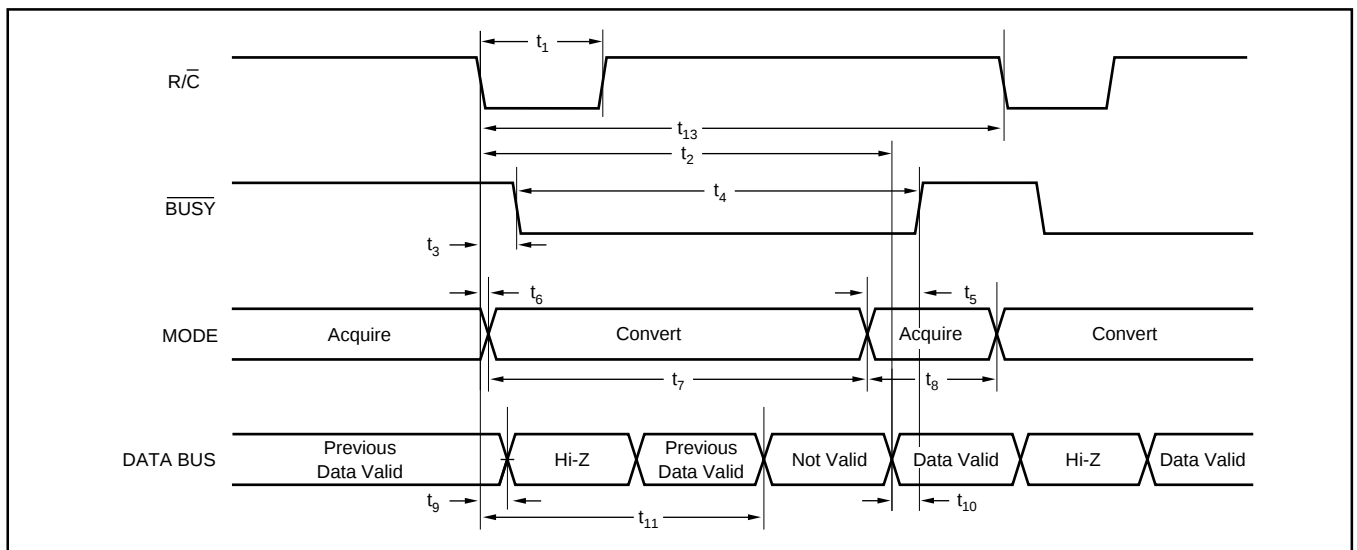

FIGURE 3. Conversion Timing with Outputs Enabled after Conversion ($\overline{CS}$ Tied LOW).
Table II for a summary of $\overline{CS}$, $\overline{R/\overline{C}}$, and $\overline{BUSY}$ states and Figures 3 through 5 for timing diagrams.
NOTE: (1) See Figures 3 and 4 for constraints on data valid from conversion "n-1".
After conversion 'n' is completed and the output registers have been updated, $\overline{BUSY}$ (pin 26) will go HIGH. Valid data from conversion 'n' will be available on D15-D0 (pins 6-13 and 15-22). $\overline{BUSY}$ going HIGH can be used to latch the data. Refer to Table IV and Figures 3 to 5 for timing specifications.
After conversion 'n' has been initiated, valid data from conversion 'n-1' can be read and will be valid up to $7\mu s$ after the start of conversion 'n'. Do not attempt to read data from $7\mu s$ after the start of conversion 'n' until $\overline{BUSY}$ (pin 26) goes HIGH; this may result in reading invalid data. Refer to Table IV and Figures 3 to 5 for timing specifications.
The number of control lines can be reduced by tying $\overline{CS}$ LOW while using $\overline{R/\overline{C}}$ to initiate conversions and activate the output mode of the converter. See Figure 3.